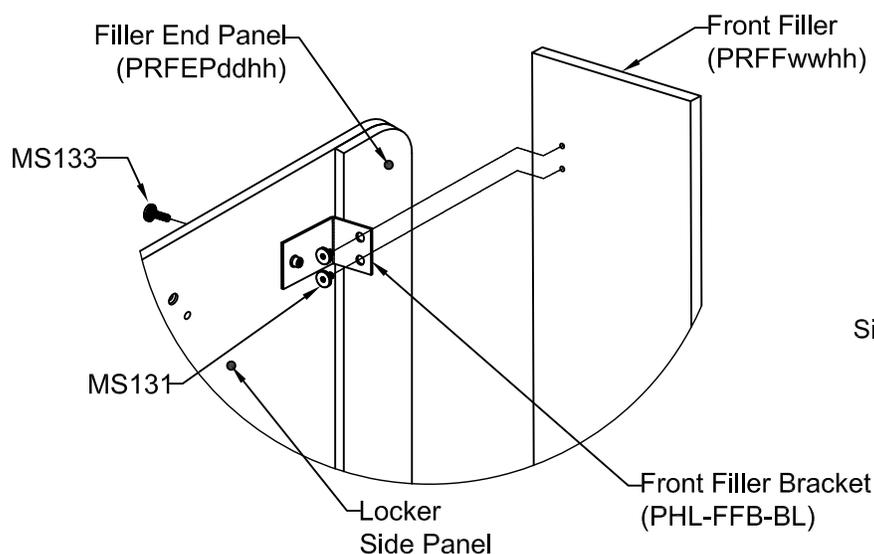

Figure 3.1: Front Filler Brackets
- 5.3 Install the front filler brackets on the front filler panel using the corresponding hardware provided. see Figure 3.1.